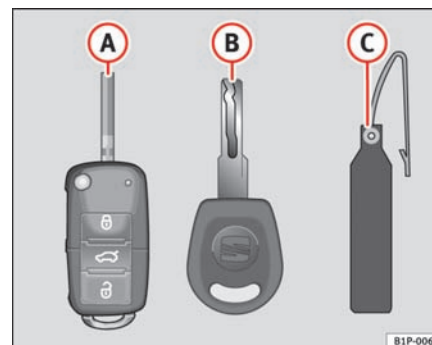

Fig. 42 Set of keys
- a remote control key ⇒ fig. 42 **A**
Duplicates can only be issued with the key number on the key tab ⇒ fig. 42 **B**. Therefore: